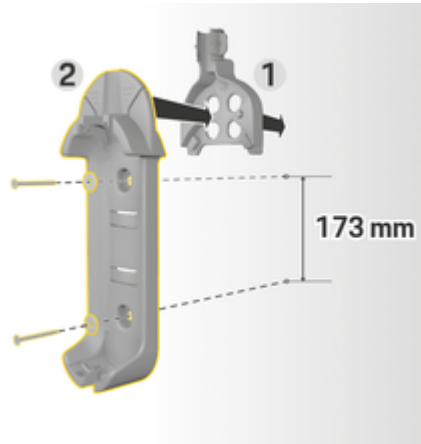

Fig. 6: Drilling dimensions
3. Press the basic wall mount **2** (Fig. 6) into the cable guide **1** (Fig. 6) from the front.